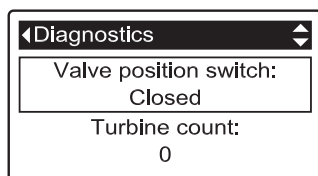

FIG. 135
2. Press the DOWN (▼) button to scroll through the list until **Valve position switch** is displayed (See Figure 135).